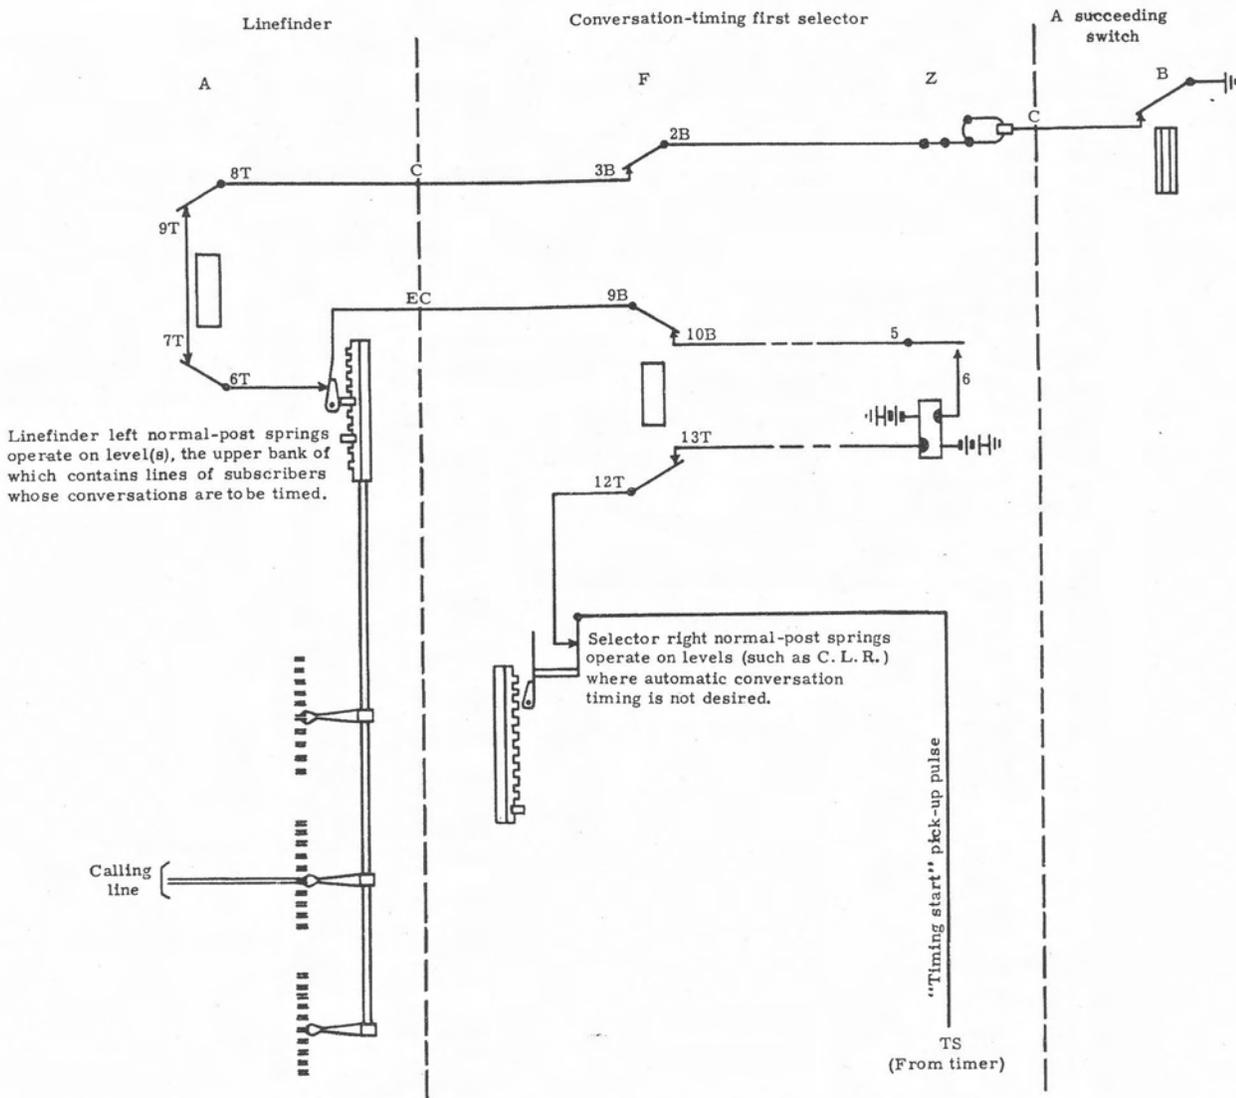

Figure 27. Upper-bank subscriber lines on certain levels (levels 5 and 8 in this example) will have holding-times or conversations timed.
*The linefinder can be arranged to restrict service to lines in its upper bank, only. In that case, the ground for the linefinder normal-post springs comes through linefinder relay A contacts (as in the left-hand part of figure 27), and therefore can ground lead EC only when the call originates in the upper-bank lines.
Any level of the linefinder upper bank* may have its lines' conversations timed. All such levels must have their normal-post lugs bent. When the linefinder finds one of the ten lines on such a level, the normal-post contacts will operate. Control-lead C ground from relay B contacts, linefinder relay A contacts, and the normal-post springs will ground lead EC (figure 27), notifying the selector that the conversation must be timed.